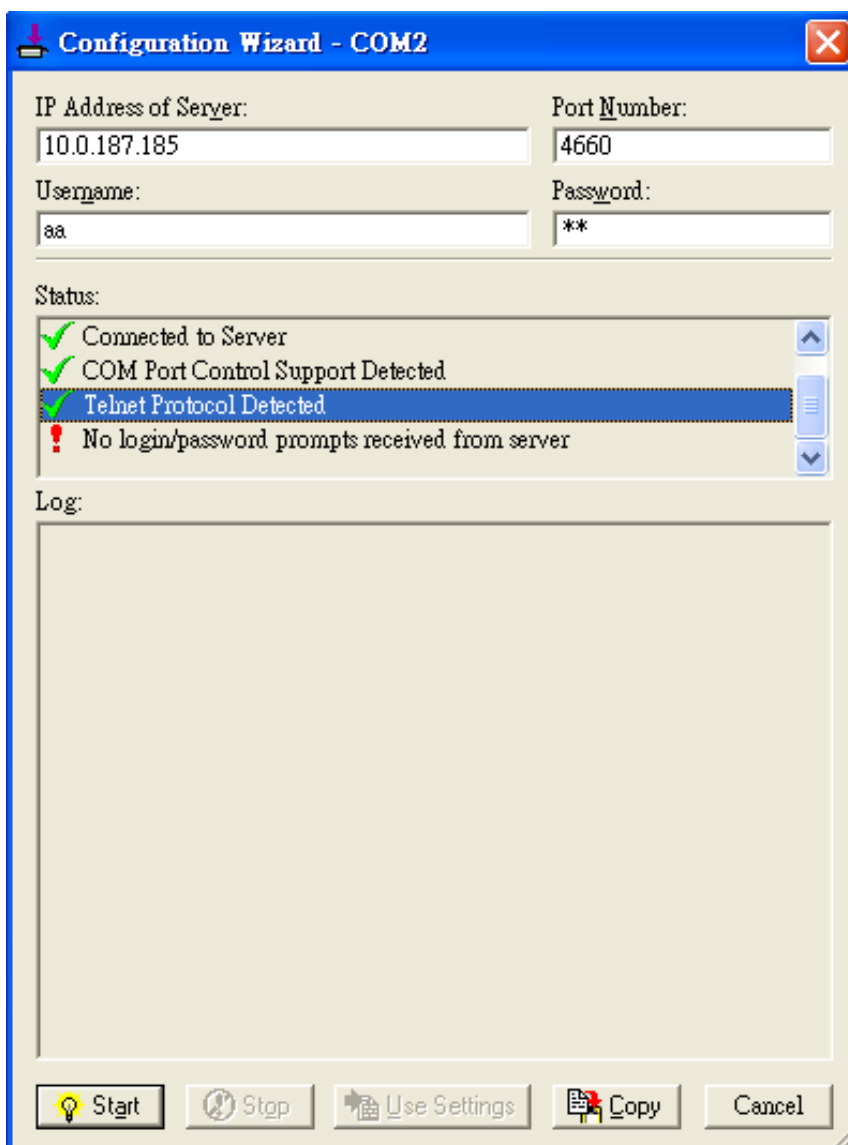

Figure 6.16 VCOM Authentication failed due to disabled VCOM Authentication
- If the status reports with an exclamation mark with a message “**No login/password prompts received from server**” as shown in Figure 6.16. This means that the **User Credentials** option in the Serial/IP utility software is enabled but the VCOM Authentication option in the serial device server (i.e. SE5201) is not enabled. Please enable the **VCOM Authentication** option on the device by setting a new and non-blank administrator’s Username and Password as described in Section 4.10.2. Note that the **Username** and the **Password** for VCOM authentication are the same username and password of the Web UI login. The default account, which has the username as “admin” and the password as “default”, is considered as an unsecured account or no authentication option.